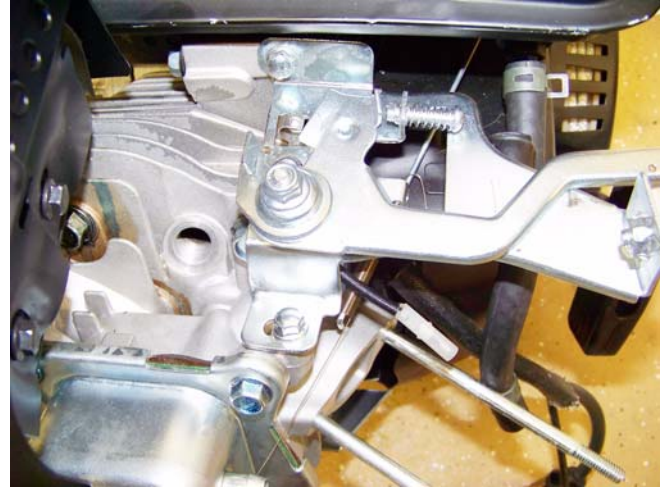

Figure 9.2
6. Remove the throttle lever by removing the two screws using a 8mm wrench. See Figure 9.2.